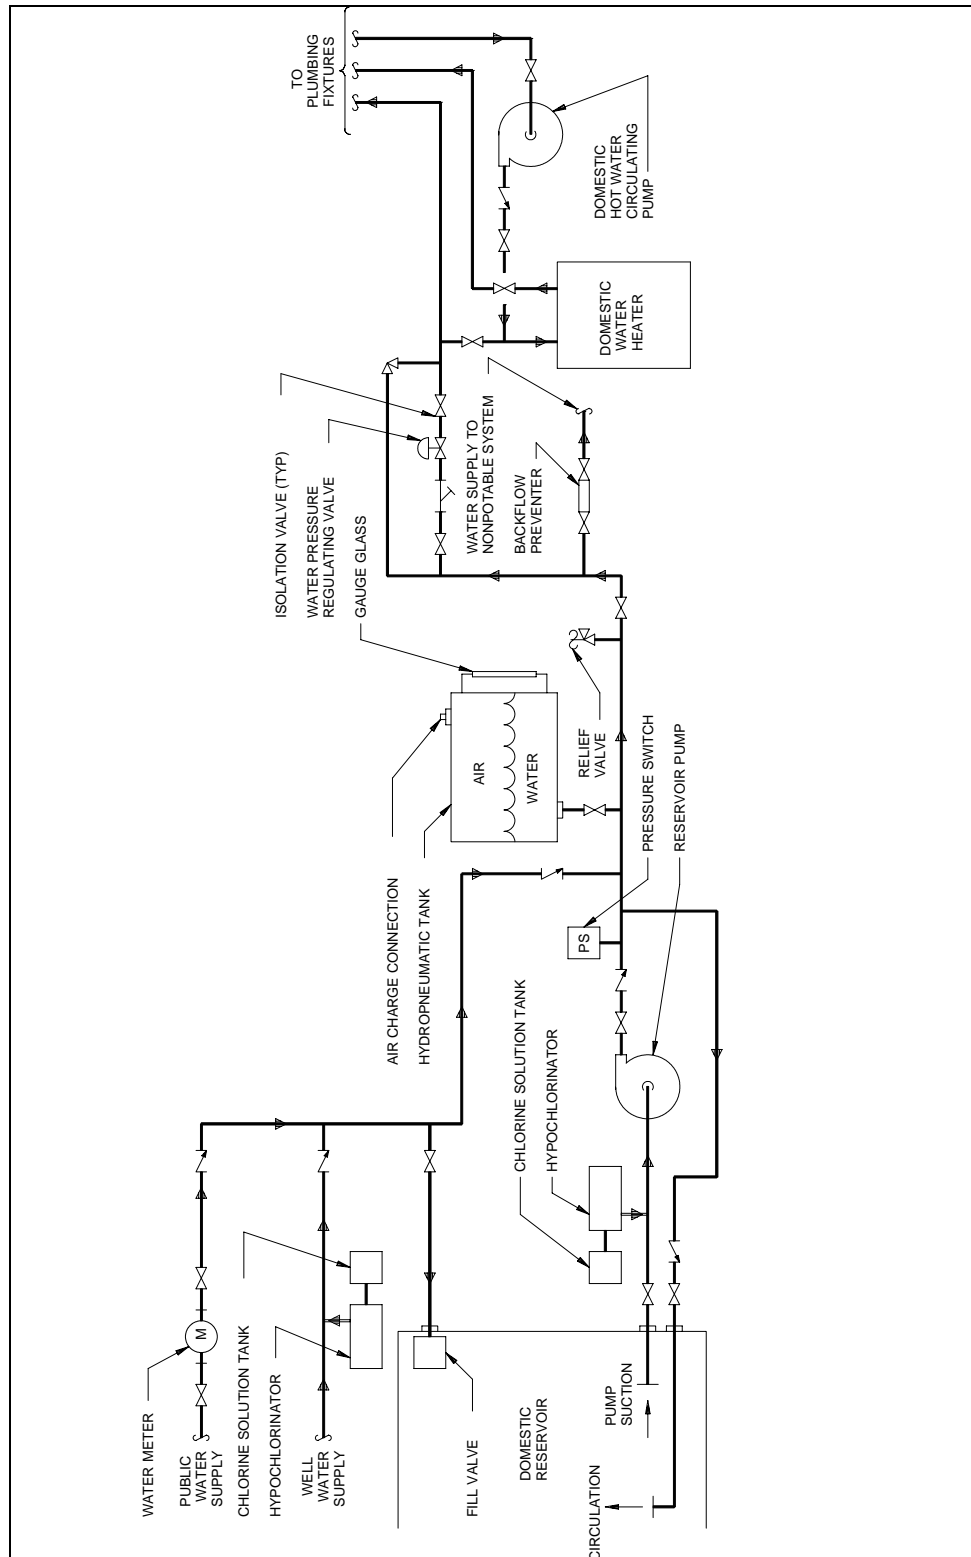

Figure 17-1. Domestic water system with reservoir storage
(1) An example of a typical domestic water system with reservoir storage (under normal operation) is shown on figure 17-1. In this arrangement, under normal conditions, the plumbing fixtures are supplied with water directly from the public water supply. The public water supply is metered and then distributed throughout the facility. The supply of water to equipment and uses that may contaminate the domestic system is provided through a backflow preventer. The water downstream of the backflow preventer is referred to as nonpotable, and is not for human consumption.
(2) During periods when the public water system is out of service, water is drawn from the reservoir and supplied to the facility through the use of the reservoir pump (emergency operation). The pump is controlled by a pressure switch, and system pressure is maintained by the hydropneumatic tank as the pump cycles. Check valves in the system prevent water flow back into the public system when the reservoir pump is operating and prevent backflow through the pump when it is not operating. The reservoir is kept filled with water when operating from the public system; however, the reservoir water must be pumped out and refilled on a regular basis to prevent stagnation and contamination of the stored water.